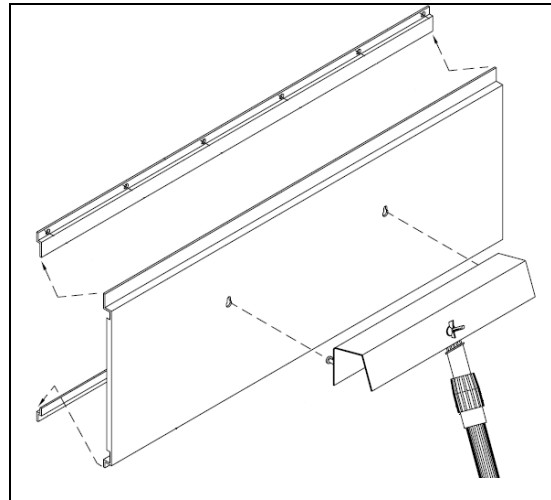

Figure 20: Changing Scoreboard Captions
2. Lift the panel all the way up into the upper retainer and then insert the bottom of the panel into the lower retainer (**Figure 20**).